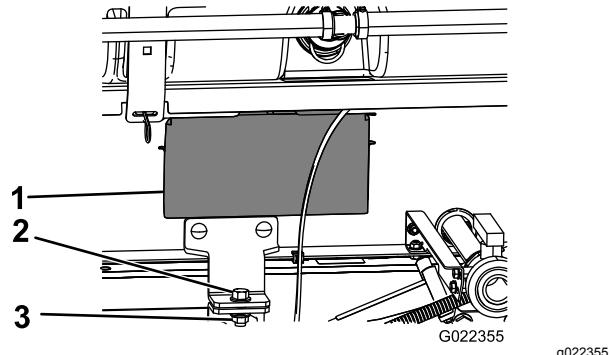

Figure 26
- Remove the access panels at both sides of the skid frame. (Figure 26).
8. Secure the hold down bracket of the tank skid assembly to the bed bracket on the frame at each side of the machine with a bolt (1/2 x 1-1/2 inches) and a locknut (1/2 inch) as shown in Figure 26.